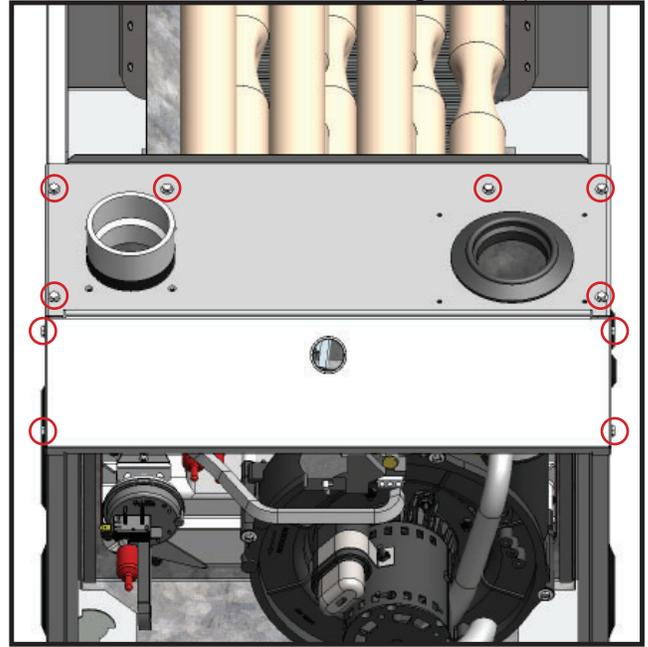

Fig. 4: Top panel / wedge panel mounting screws
9. Remove the 4 screws attaching the wedge to the furnace, and then remove the 6 screws attaching the top panel to the furnace **(Fig. 4)**.